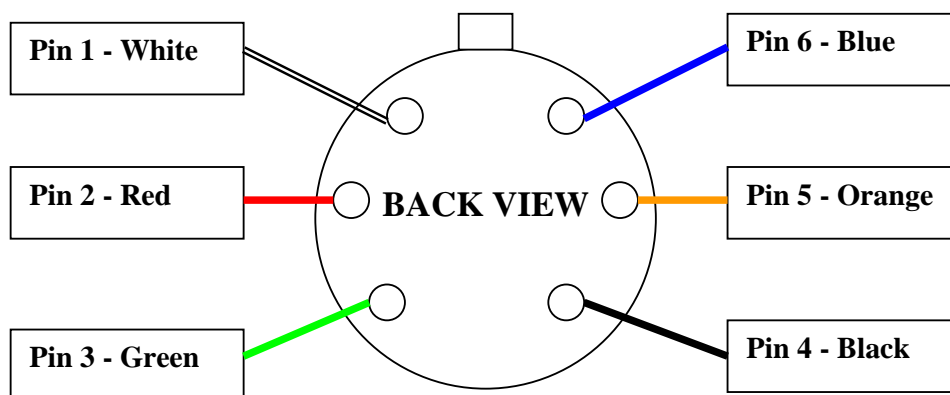

Figure 16
- 7.7. Carefully solder the wires into the solder cups of piece C of the LEMO Connector as shown in Figure 16. Connect white to pin 1 (keyed). Going counterclockwise with the solder cups facing you consecutively solder the White, Red, Green, Black, Orange, and Blue wires. Then move the shrink tubing into place and shrink.